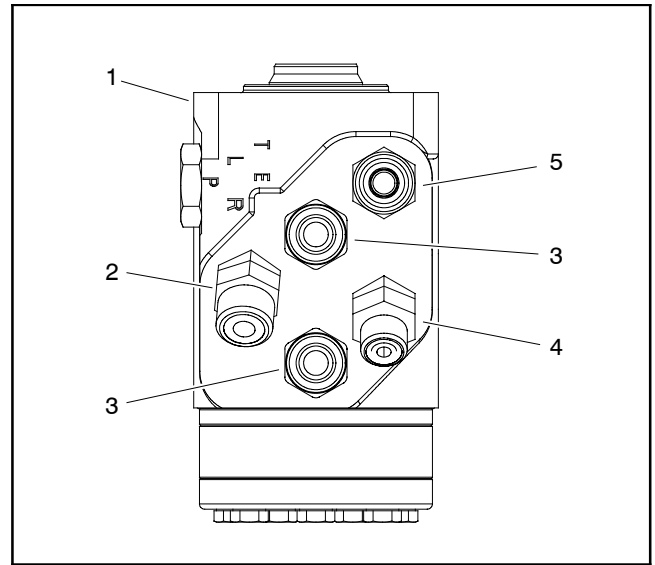

Figure 78
7. If hydraulic fittings are to be removed from steering control valve, mark fitting orientation to allow correct assembly. Remove fittings from valve and discard O-rings (Figs. 78 and 79).
1. If fittings were removed from steering control valve, lubricate and place new O-rings onto fittings. Install fittings into port openings using marks made during the removal process to properly orientate fittings (Figs. 78 and 79). Tighten fittings (see Hydraulic Fitting Installation in the General Information section of this chapter).